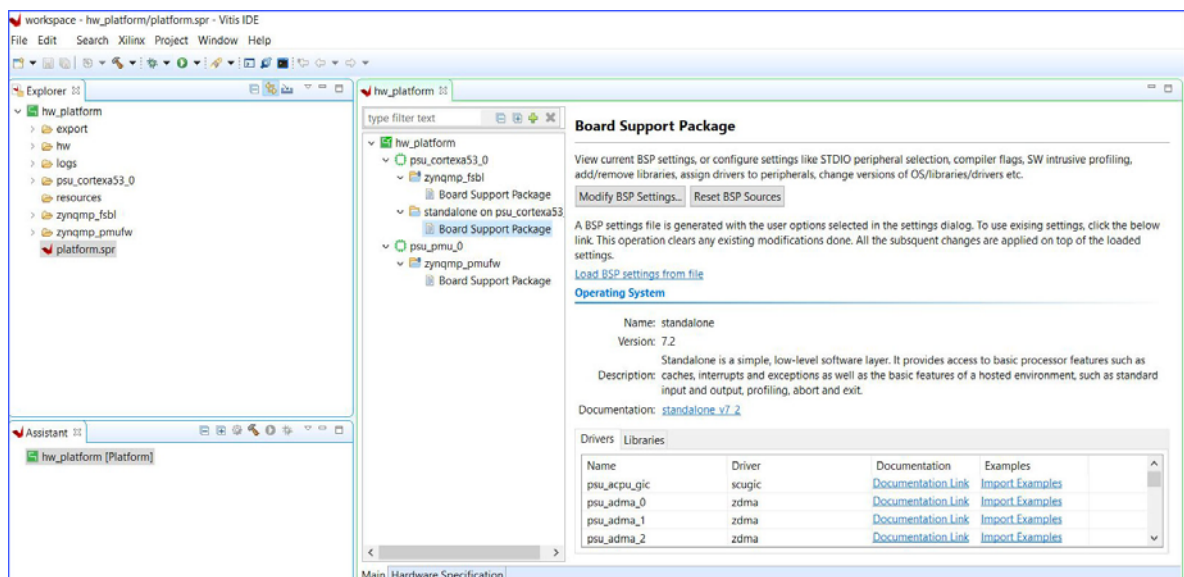

Figure 6: Board Support Package View in Vitis
- Select **Board Support Package** under **psu_cortexa53_0**. The **Board Support Package** opens as shown in Figure 6.